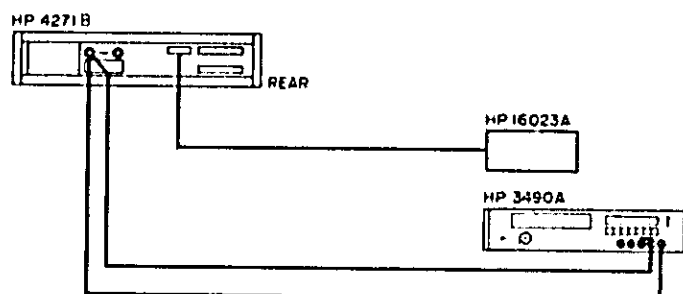

Figure 4-2. Internal Bias Voltage Supply Check.
- a. Connect instrument as shown in Figure 4-2.